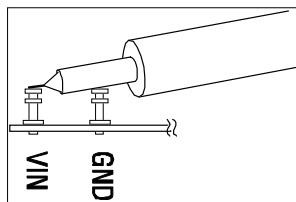

Figure 2. Measuring Input or Output Ripple
8. Observe both output voltages AC-coupled; they should measure noise voltages of less than 5mVAC each. Refer to Figure 2 for proper measurement technique.